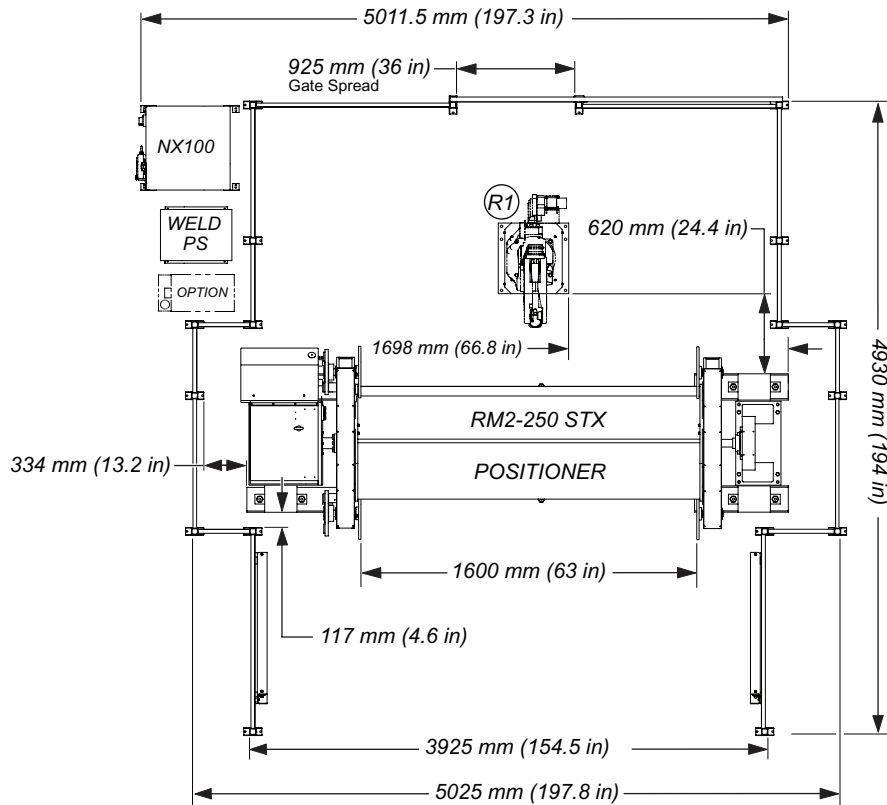

Figure 6 Installation Dimensions for the ArcWorld[®] II-6000 System
The RM2-250 STX positioner has a load capacity of 250 kg (551 lbs) per side, a 1,170 mm (46 in) maximum part diameter, and a “Side A to Side B Sweep Time” of 2 seconds. The standard distance between the headstock/tailstock face plates is 2600 mm (102 in.) with 1600 mm (63 in) available as an option (see Figure 6). Positioning accuracy for the RM2-250 STX is ± 0.1 mm (± 0.004 in).
1. Clear floor space needed for the ArcWorld[®] II-6000 system (see Figure 6). Allow an additional 1.2 - 1.5 m (4 to 5 ft) on all sides of the work cell to provide the room needed for installation.
To make sure the ArcWorld®II-6000 work cell is complete and to verify the correct amount of floor space for the installation, Motoman recommends that all system components (except the safety arc curtains) be set in place prior to anchoring the components to the foundation. See Figure 6 and the system drawings (supplied with your ArcWorld®II-6000 system) to correctly place system components.
1. Place the RM2-250 STX positioner to define the front of the cell (see Figure 6).
2. Place the robot (with riser) in the specified location relative to the positioner (see Figure 6).
3. Assemble and place the safety fencing around the work cell (see Figure 6 and refer to fence installation documentation that is supplied with the ArcWorld®II-6000 system).
4. Ensure that the final placement of the assembled safety fence conforms to the placement dimensions shown in Figure 6.
5. Install the work cell sliding door (refer to Figure 6 and the safety fencing documentation that is supplied with the ArcWorld®II-6000 system).
7. Place the NX100 controller and welding power source (see Figure 6 and the ArcWorld®II-6000 system drawings for the correct location for these components).